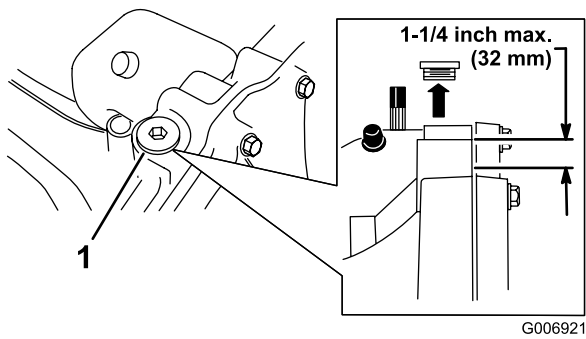

Figure 42
4. Clean around the fill plug (Figure 42) so that dirt cannot fall into the reservoir if you need to add fluid.
**Note:** The level should be a maximum of 1-1/4 inch (32 mm) below the top of the fill port (Figure 42). Add fluid if necessary.